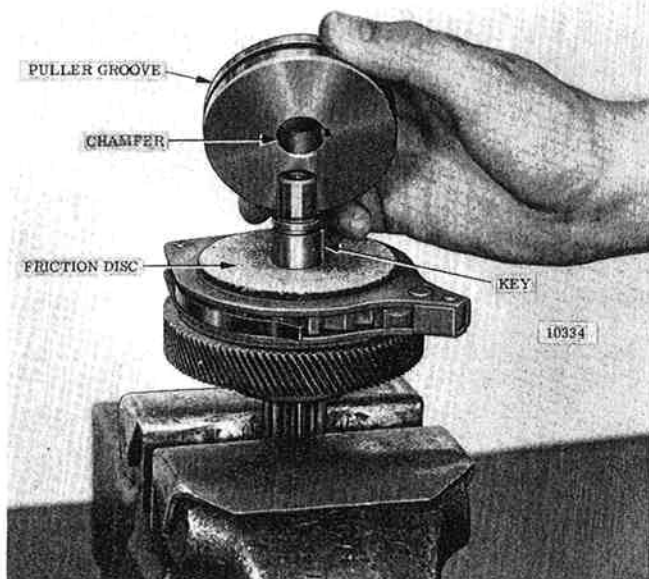
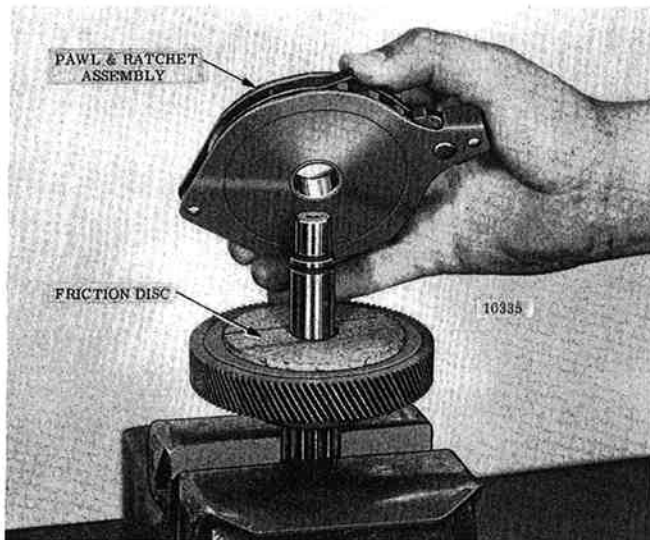

Figure 7-22. View Showing Load Brake Flange Removed.
Figure 7-23. Removing Pawl and Ratchet Assembly From Load Brake Shaft.
(2) Using a puller tool, remove brake flange from shaft. A groove is provided around outer diameter for this purpose. See figure 7-22. Remove key from shaft and lift off 2 friction discs, and the pawl and ratchet assembly (fig. 7-23).
(4) When installing pawl and ratchet assembly on load brake shaft, be certain that teeth on ratchet face are in the same direction as shown in fig. 7-23. The ratchet assembly should rotate freely when turned counter-clockwise and the pawl should engage ratchet teeth when unit is turned clockwise.
(5) When installing brake flange position it with chamfer facing friction disc, figure 7-22.